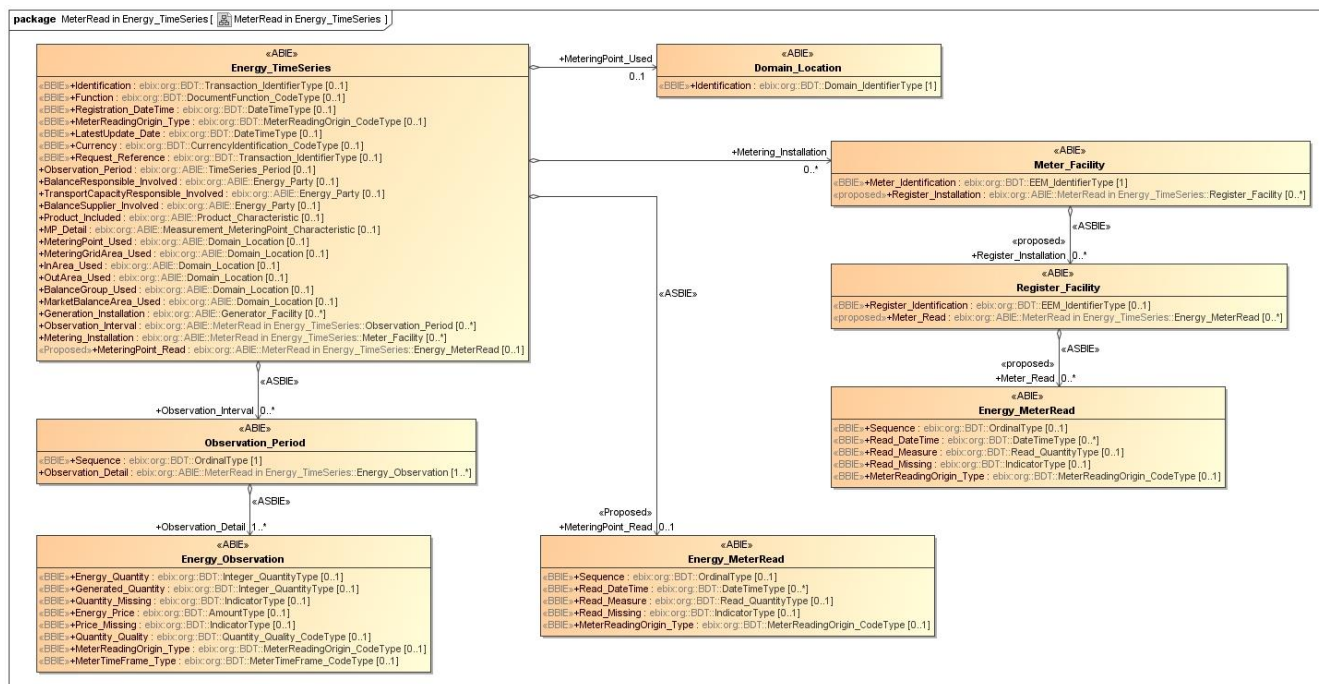

Figure 1 Meter read - Energy Time Series
After the previous ETC meeting we proposed the class diagram in **Figure 1**, i.e. we added the class “Energy Meter Read” directly under “Energy Time Series”, in addition to under the set “Meter Facility”, “Register Facility”. The “Energy Meter Read” class is only used for sending meter stands. Related volumes are sent in the “Energy Observation” class.
- We keep the structure as shown in **Figure 1**, with after the following changes: